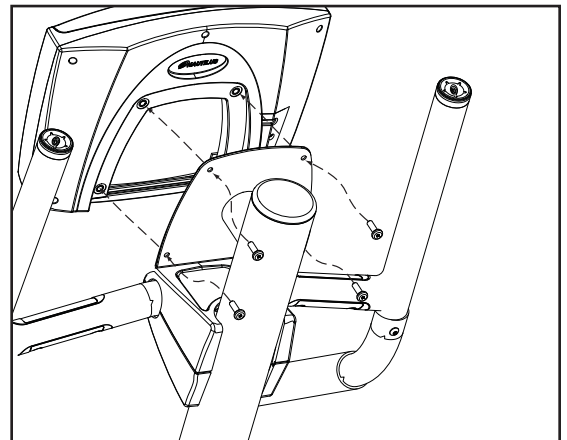

Figure 21
**11-3** Secure the console with the 4 Phillips screws removed previously (see Figure 21).